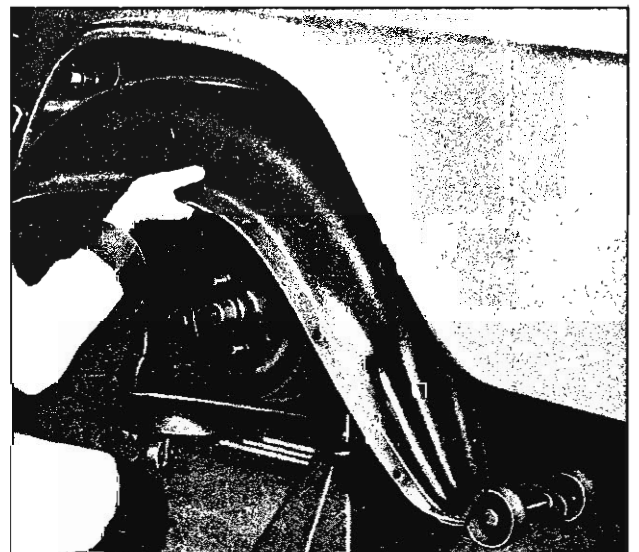

Fig. 139—Removing Front Fender Skirt
4. With all screws removed, lower the skirt toward floor, rotate the upper portion toward you and remove the skirt from the vehicle as shown in Figure 139.